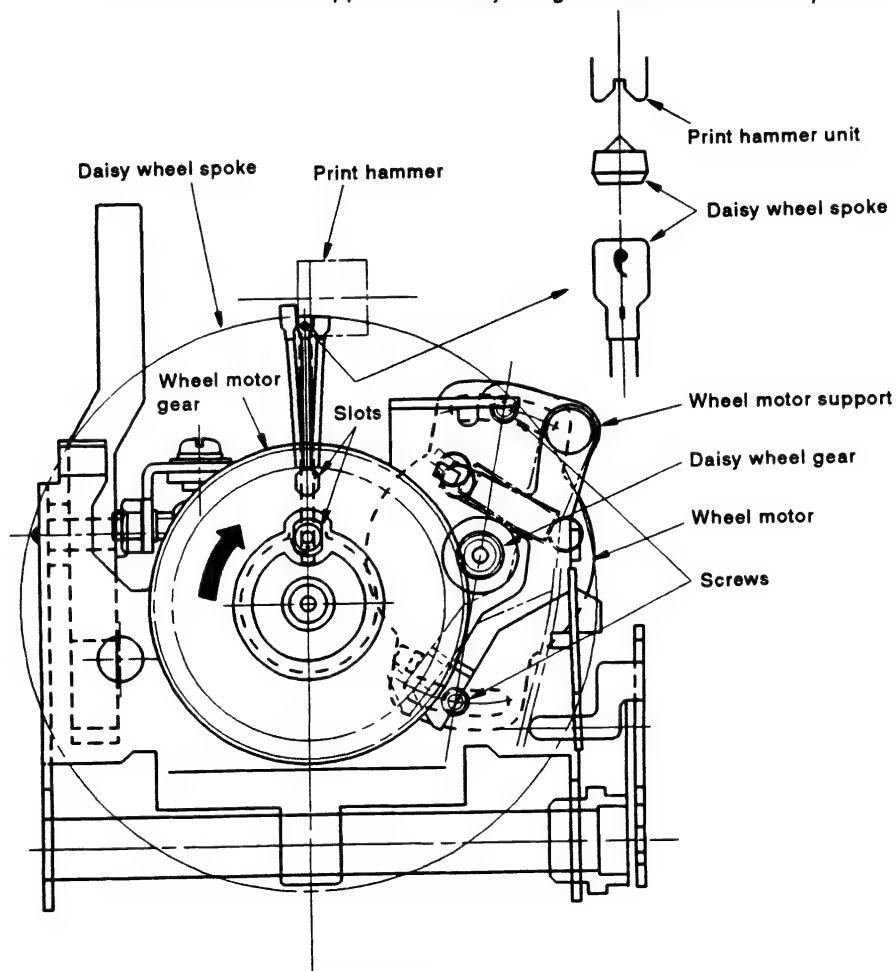

Fig. 10.2
- (2) For adjusting of the wheel motor, see "10.3.1 Adjustment of the wheel motor home position." (Fig. 10.2)